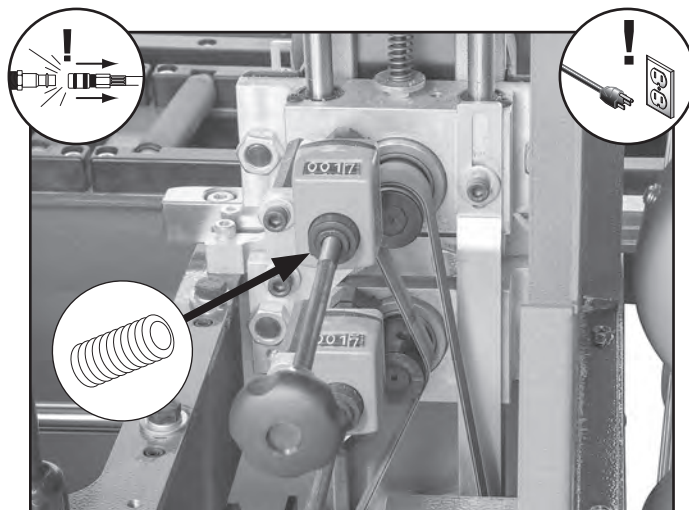

Figure 114. Location of dial indicator set screw.
6. Loosen set screw in dial indicator collar (see **Figure 114**).